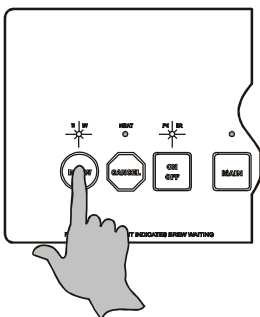

Fig. 7 Initiate a Brew
4. Remove the spray disk from the brew head (See figure 7):